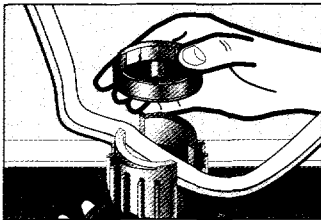

Figure 5
- 3. Screw cap tightly to make electrical connections. (see figure 5)